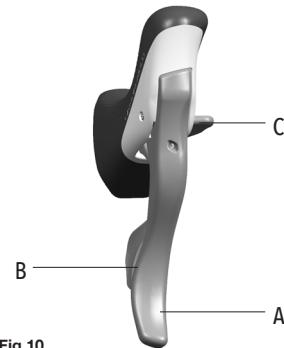

Fig.10
- Lever B (Fig. 10) on the right-hand control set operates the rear derailleur, lifting the chain onto the next highest sprocket.
- Lever C (Fig. 10) on the right-hand control set operates the rear derailleur, dropping the chain onto the next lowest sprocket.
- You can move levers B and C (Fig. 10) on the right control by several consecutive clicks to raise (maximum 3 sprockets) or lower (maximum 3 sprockets for Ergopower Ultra Shift) the chain in one movement.